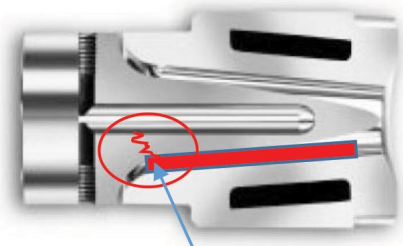

Figure 1 – A drip that gets “pinched” between the sprue bushing and the sprue post can crack the post and allow water to enter the nozzle and gooseneck!
5. Damage to the sprue post. If the drip is thick enough it can “pinch” the sprue post during die close and break or crack the sprue post. A cracked sprue post can force water into the nozzle and gooseneck. The resulting steam pressure buildup inside the gooseneck can raise the level of the molten metal and cause the pot to run over and spill on the floor. This is not theory! I have personally witnessed this. (Figure 1.)
- Figure 1: DME, Die Casting Catalogue.